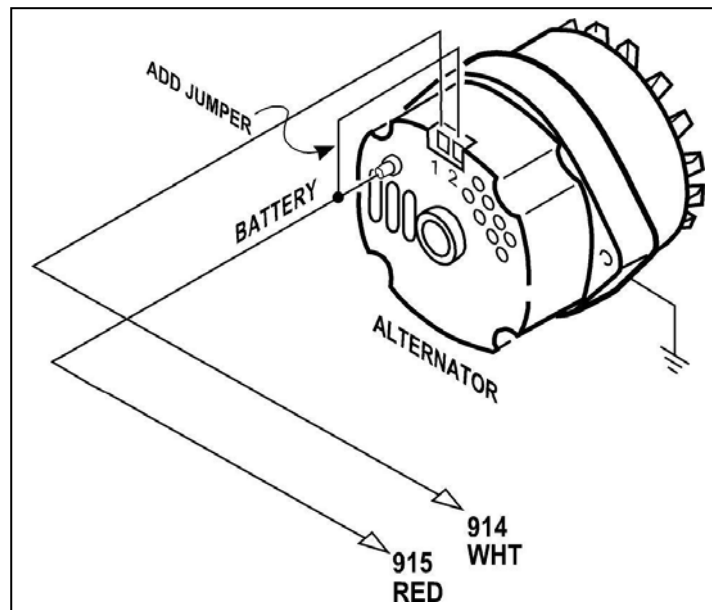

Figure 7.1 Late GM Alternator – Internal Regulator
7.1 Late GM Alternator (after 1972) - Internal Regulator. See Figure 7-1.
- 7.4.1** There are two different turn signal plugs on most keyed columns. The difference is in the length of the male plug that is mounted ON THE COLUMN. One plug is 4-1/4" (4.25") long and the other is 3-7/8" (3.875"). This is only a difference of 3/8" (0.375"), so measure the plug carefully. The wire harness kit has included two (2) different female connectors to mate with the column-mounted plug. See **Figure 7-1** to determine which female connector is correct for your truck. The TURN SIGNAL SECTION wires have already been terminated for you. Choose the proper plug and install the terminals according to **Table 7-1**, as shown in **Figure 7-1**. The wire color codes have been included for reference.